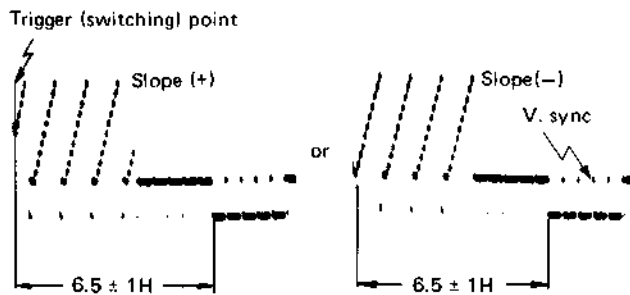

Fig. 5-7 Head switching position
3. Connect the oscilloscope to TP-1 (VIDEO OUT) of the REAR CONNECTOR board and adjust R61 so that the fall portion of the vertical sync signal becomes positioned 6.5 H of the trigger (switching) point as shown in Fig. 5-7.